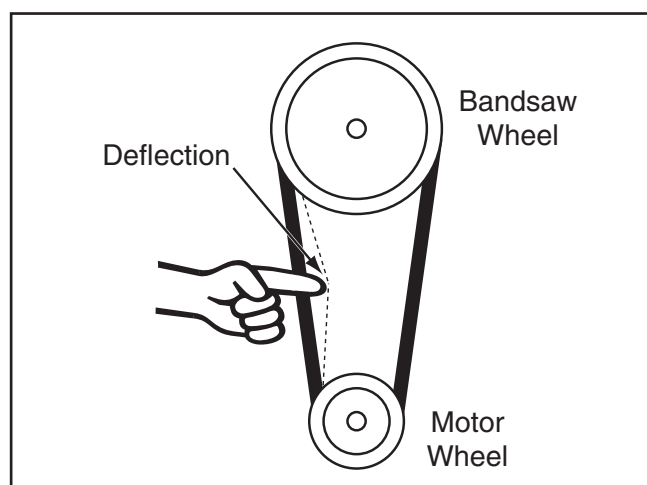

Figure 57. V-belt deflection.
4. Push the center of the V-belt. Note the amount of deflection (**Figure 57**). If deflection is more than $\frac{3}{4}$ ", tighten the V-belt.